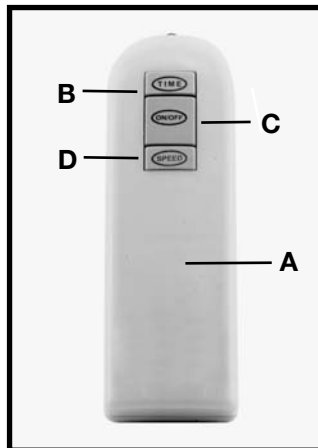
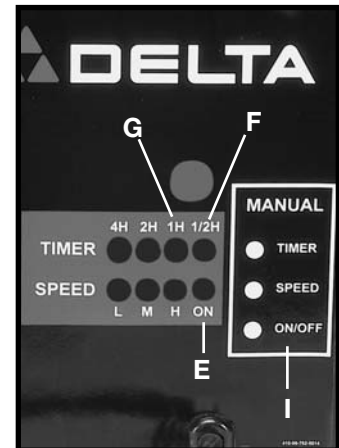

Fig. 8A
Fig. 8B
The Air Cleaner is equipped with a REMOTE CONTROL (A) Fig.8A. **NOTE:** The remote requires two (2) AAA batteries (not supplied). Battery housing is located underneath the back cover.
Notice that the remote control has three control buttons (Fig. 8A): TIME (B), ON/OFF (C), and SPEED (D). These buttons correspond to the LED sensor panel on the rear of the machine (I) Fig. 10B. **NOTE: When the machine is connected to the power source, a green light (E) will be activated on the panel.**
To activate the blower unit, press the “ON/OFF” button (C) Fig. 8A. The machine will begin in the default speed of Low or “L” on the sensor panel. Press the SPEED button once, and the machine will run at the high (or “H” level). Press the SPEED button again, and the machine will run at the medium speed (or “M”). Press the SPEED button a third time, and the machine will return to the Low Speed mode.
To turn the machine off, press the “ON/OFF” button (C) Fig. 8A.
When the TIME button (B) Fig. 8A is pressed on the remote control, the machine will run for 1/2 hour. (An LED light will show up on the sensor panel (F) Fig. 8B). Pressing the TIME button again will set the machine to run for one hour. Notice that the light on the sensor panel has now moved to the 1H location (G) Fig. 10B. When the TIME button is pressed a third time, the machine will run for 90 minutes. At this point, two lights will appear - one under the 1H location (G) and one under the 1/2H location (F) indicating an hour and a half. Continue this process for up to 7 1/2 hours of run time.
All of these functions can be manually controlled by using the buttons on the sensor panel (I) Fig. 8B.